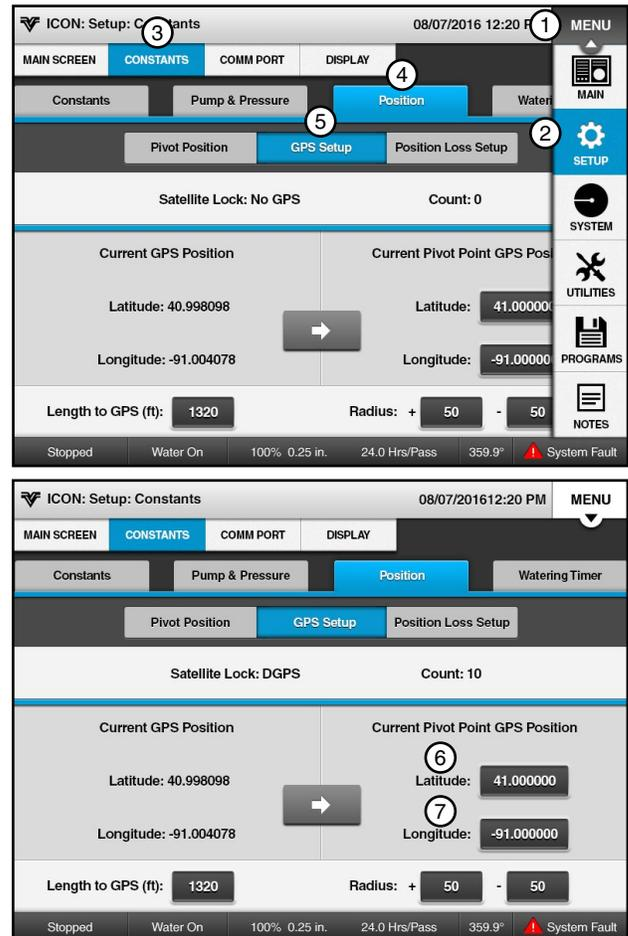

Figure 43-1 1. Menu 5. GPS Setup
- Go to the GPS Setup screen. See Figure 43-1.